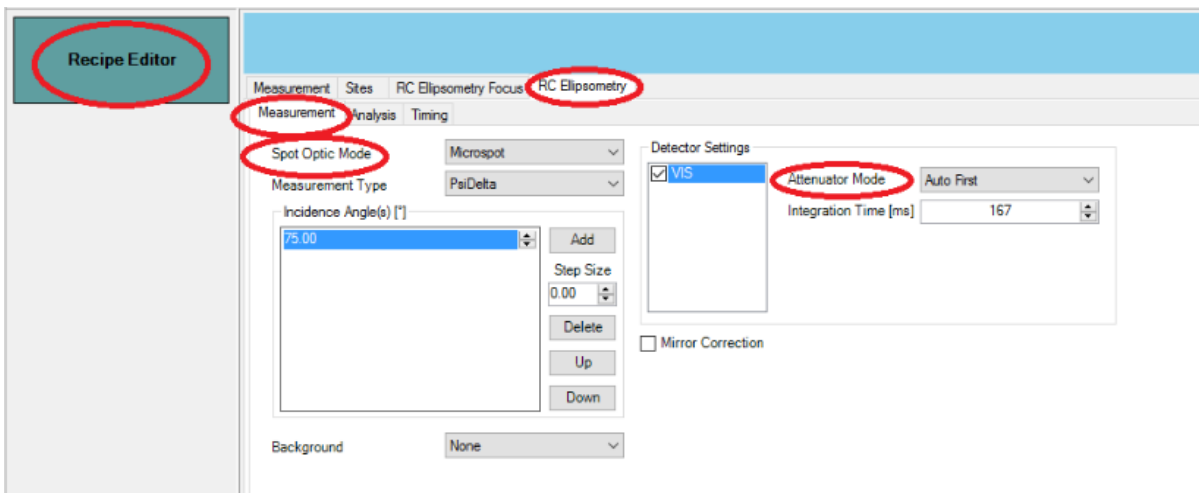

Figure.15
24. Go to "RC Ellipsometry" (Figure. 15)